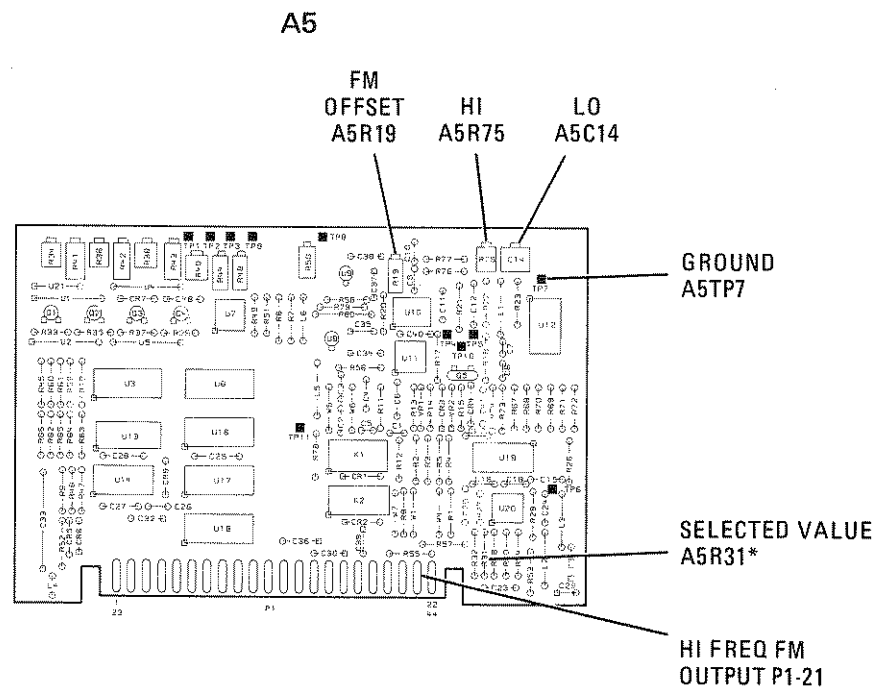
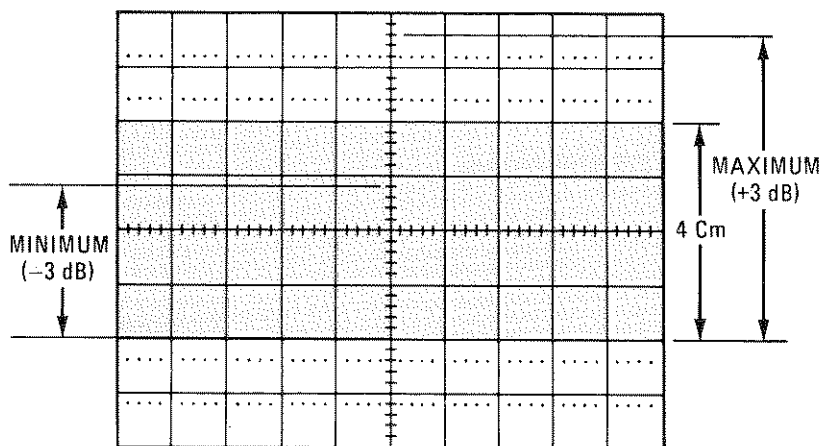

Figure 5-40. Location of A5 FM Driver Adjustments
Figure 5-41. FM Flatness Tolerance, DC to 2 MHz
2. Connect the DVM between A5 pin 21 and A5TP7 (HIGH FREQ FM RET). Refer to Figure 5-40 for adjustment procedure locations. Adjust A5R19 (FM OFFSET) for a DVM reading of  $0.000 \pm 0.001$  Vdc.
6. Manually sweep the Function Generator frequency from DC to 100 kHz. Select resistor A5R31 so that the amplitude of the waveforms at Function Generator frequencies of 100 Hz and 100 kHz are the same  $\pm 0.2$  divisions on the CRT. Refer to Figure 5-40 for the location of A5R31. Refer to Table 5-3 for the allowable range of values for A5R31.
7. Manually sweep the Function Generator frequency from DC to 10 MHz. Adjust A5C14 (LO) and A5R75 (HI) controls to obtain the most constant overall response from DC to 10 MHz. Repeat this step several times.
8. Check that the  $\pm 3$  dB FM flatness supplemental characteristic is met between DC and 2 MHz as follows. Manually sweep the Function Generator frequency between DC and 2 MHz. On the Oscilloscope, note the maximum and minimum response points as shown in Figure 5-41. The maximum point (+3 dB) can be as high as 5.6 divisions, and the minimum point ( $-3$  dB) can be as low as 2.8 divisions.